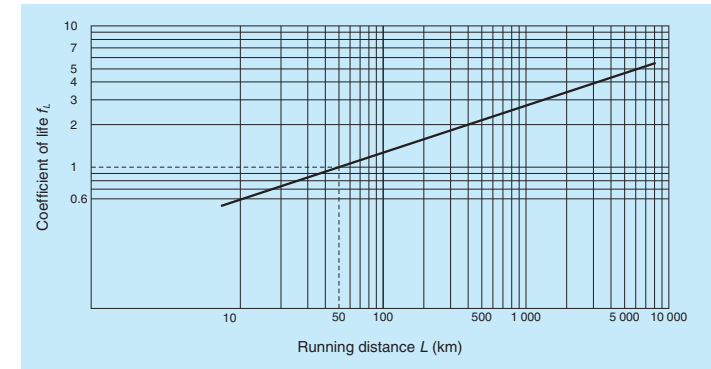
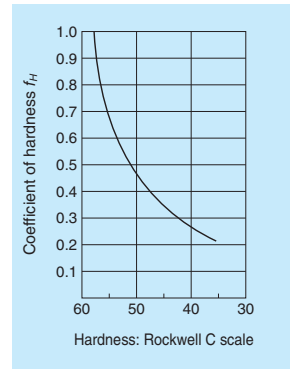

Fig. 5 Relationship between life factor and running distance
Fig. 6 Hardness factor
- P : Radial load (N)
- f_L : Life factor (Refer to Fig. 5)
This formula is used provided that the shaft hardness is HRC58 or higher. Rated life is shorter if the shaft is softer. In this case, find the hardness factor *f_H* from Fig. 6, and multiply the value.
From Fig. 5 and Fig. 6,